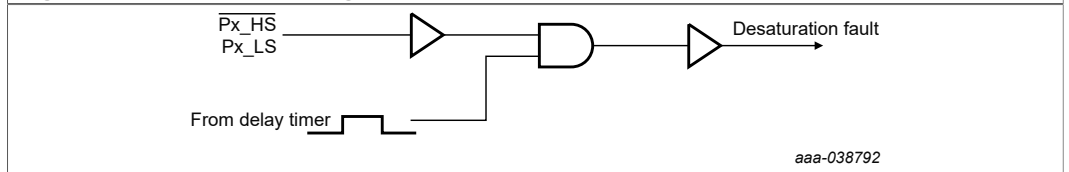

Figure 4. Desaturation blanking and filtering detail
- [16] Desaturation is measured as the voltage drop below  $V_{SUP}$ , thus the threshold is compared to the drain-source voltage of the external high-side FET. See Figure 4.